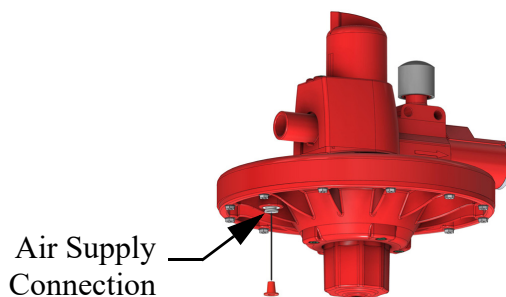

Figure 14. Air Supply to Regulator
4. Connect the Tubing to the air supply connection of the regulators (See **Figure 14.**)